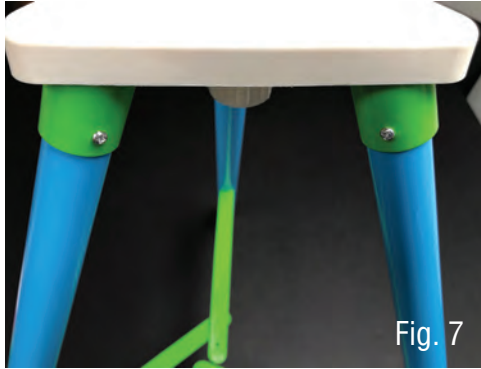

Fig. 7
On a flat surface, place the Blue Legs into the Green Leg Supports attached to the Base Plate. Secure each leg with (2) screws through the predrilled holes of the Blue Legs (Fig 7). NOTE: The Green Cross Supports will face the center of the stand.